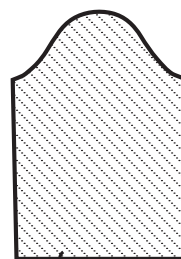

Figure 6
1. Cut out the sleeve and make a mark at the center of the placket (Figure 6).